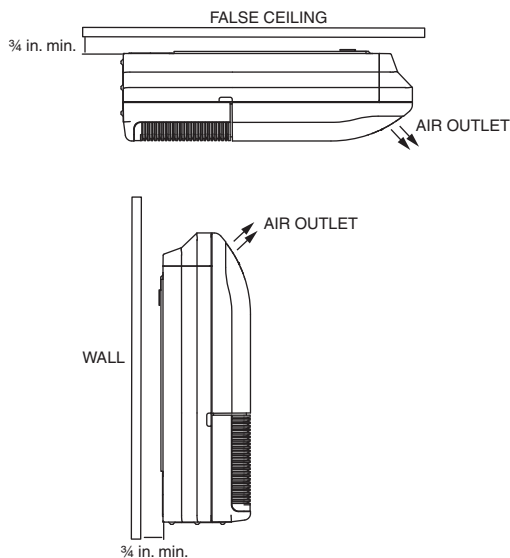

Fig. 4 — Spacing from Ceiling or Wall
- There should be adequate space between the false ceiling and unit top for under-ceiling units, or between the wall and the back for floor units, for installation and maintenance (see Fig. 4).